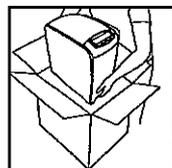

Fig. 1
- Lift the air washer out of the box by reaching to the bottom of the unit and pulling the unit away from the packaging (Fig. 1).